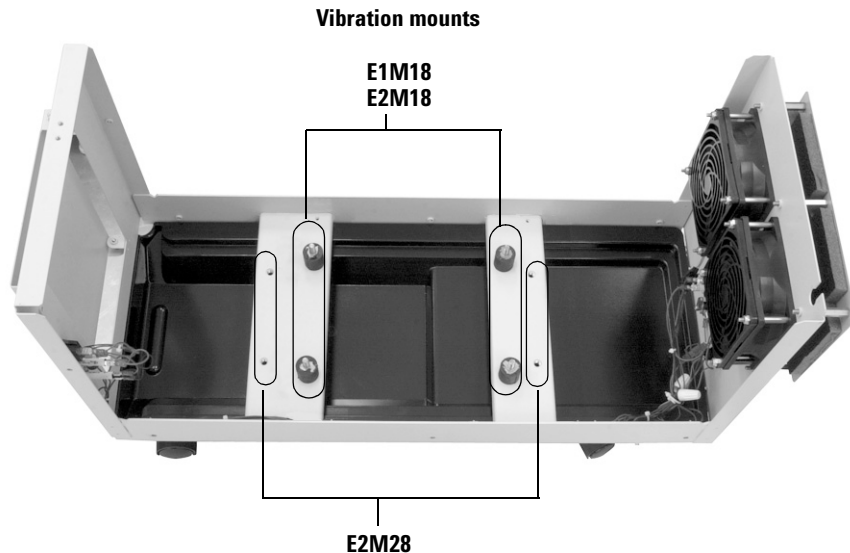

Figure 6 Pump vibration mounts installed for the E1M18 and E2M18 pump.
- 3 Remove the four nuts from the vibration mounts located on the base of the enclosure. See Figure 6.
- 4 Make sure the position of the vibration mounts matches the configuration of your specific pump. The E1M18 and E2M18 pumps use the configuration shown in Figure 6. When using the E2M28 pump, move the vibration mounts to the outer holes shown in Figure 6.